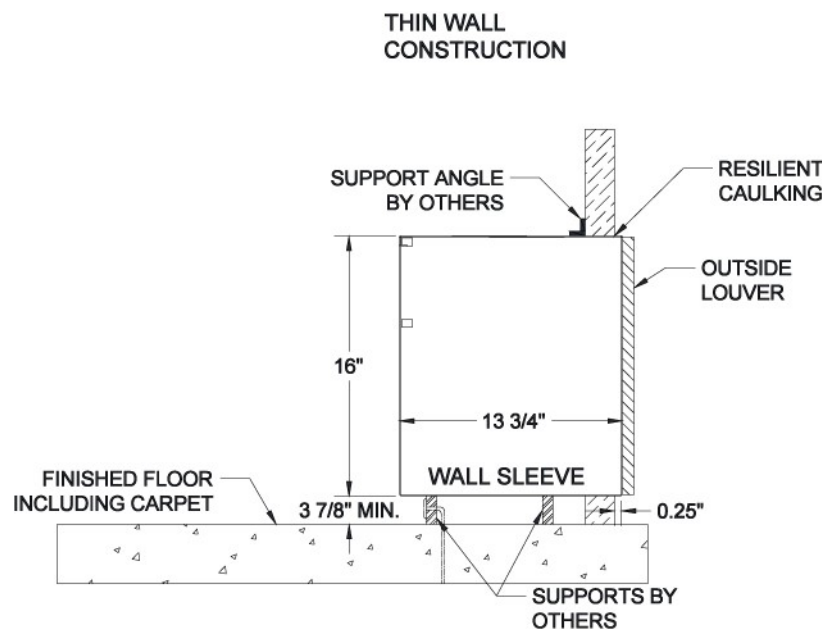

Figure 1
2. Push the sleeve through the wall opening so that a minimum of 1/4" (6mm) projects past the outside wall. This will provide a fillet area for caulking (refer to figure 1). The center of gravity is approximately 10 3/4" (273mm) from the rear face of the standard wall sleeve. If a sub base is not used or the wall sleeve is more than 4" off the floor field support must be provided up to the center of gravity. This support can be metal wood or concrete.